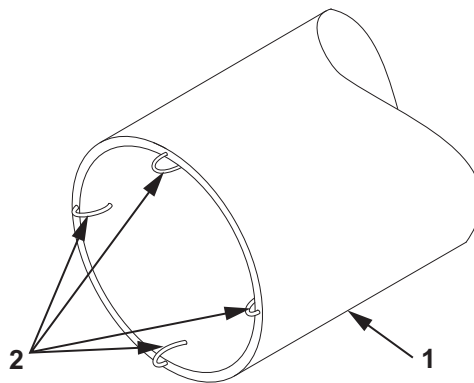

Figure 6. Hose Assembly Repair.
18. Using needle nose pliers, carefully bend the ground wire (Figure 6, Item 2) inside the hose assembly (Figure 6, Item 1).